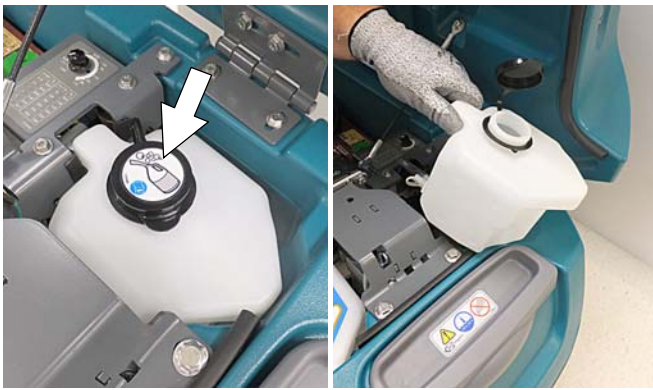

FIG. 147
3. Pour 1 gallon / 4 liters of propylene glycol based recreational vehicle (RV) antifreeze into the solution tank.
Models equipped with optional Severe Environment detergent tank - Lift tank from machine and empty the detergent from tank (Figure 147). Return tank. Pour a 1/4 gallon / 1 liter of propylene glycol based recreational vehicle (RV) antifreeze into the detergent tank.